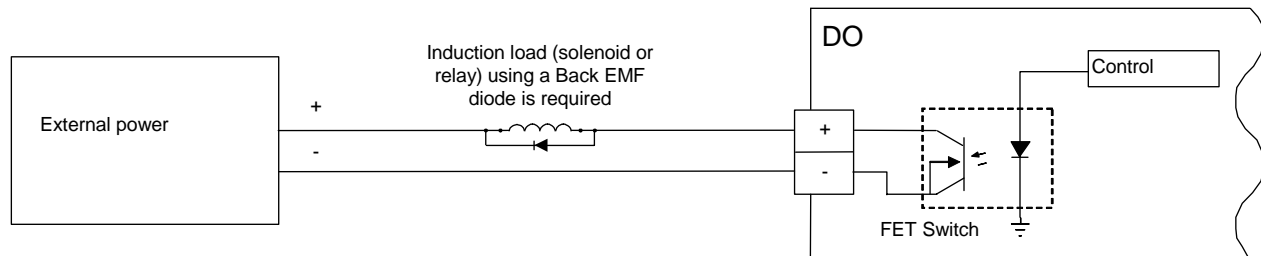

Figure 5-7. Solid State Relays – Discrete Outputs
The Discrete Output (DO) provides a solid-state switch to control relays and to power small electrical loads. The DO circuitry is optically coupled to help isolate the processor board from the input signal. Refer to Figure 5-7.
The “+” terminal is the normally open contact and the “-” terminal is the common. Refer to Figure 5-7.